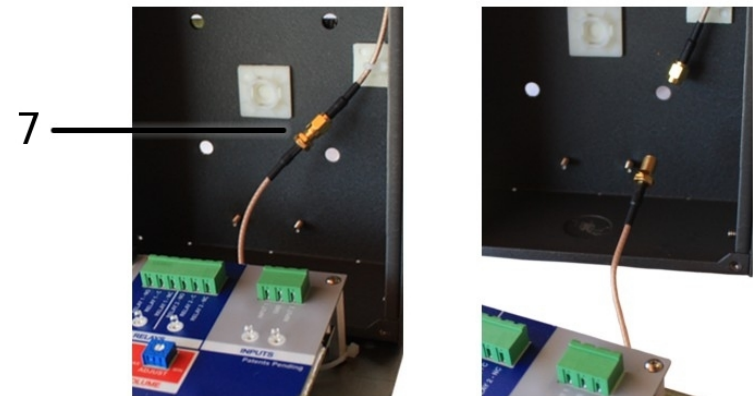

Figure 7
- 6) Ensure that the antennas on all units are securely installed (hand tighten) (see figure 7).